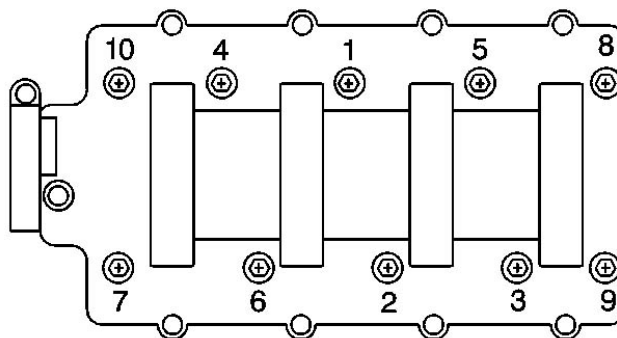

Figure 1: Recommended factory tightening sequence.
5. Install the supplied socket head cap screws into the cylinder heads with flat washers. Apply light lubrication to the threads and hand tighten all screws working side to side and out from the centre (refer to figure 1) until the manifold is fully seated on the mounting flanges and the o-rings have been compressed.